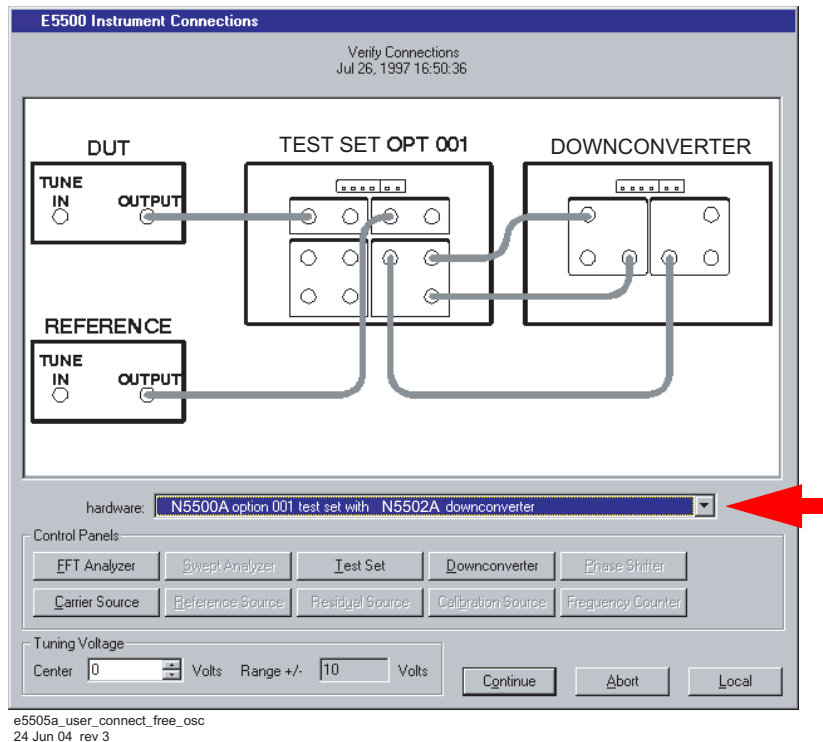

Figure 140 Connect diagram for the microwave source measurement
- 3 When the **Connect Diagram** dialog box appears, click on the hardware drop-down arrow and select your hardware configuration from the list. See Figure 140 on page 197.